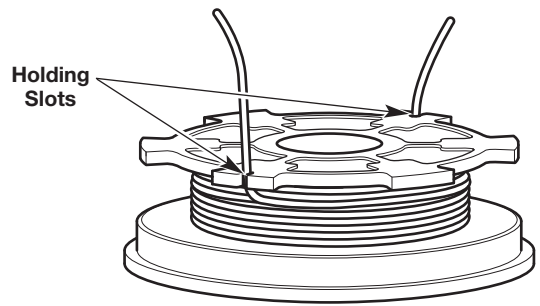

Fig. 30
4. Insert the two 6-inch ends into the two holding slots (Fig. 30).
6. Insert the two 6-inch ends into the two holding slots (Fig. 30).